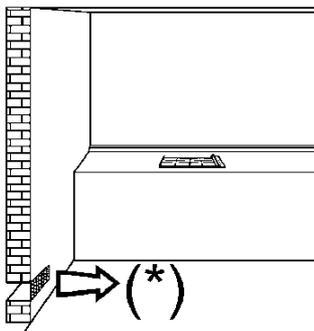
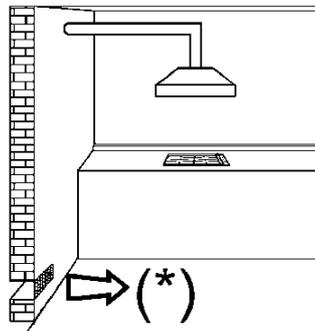
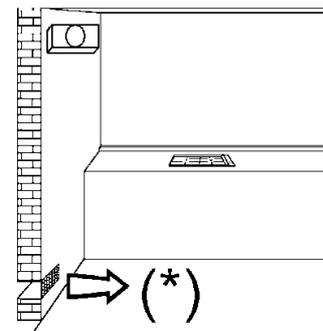

FIG. 3
FIG. 4
FIG. 5
- *use of a gas cooking appliance produces heat and moisture in the room in which it is installed. The room must therefore be well ventilated by keeping the natural air vents clear (see fig. 3) and by activating the mechanical aeration device (suction hood or electric fan fig. 4 and fig. 5).*
Natural air flow must enter directly through permanent openings in the walls of the room in question. These must open towards the outside and possess a minimum section of 100 cm² see fig. 3). It must be impossible to obstruct these openings.
Gas cooking appliances must always dispose of their combustion fumes through hoods. These must be connected to flues, chimneys or straight outside (see fig. 4). If it is not possible to install a hood, an electric fan can be installed on a window or on a wall facing outside (see fig. 5). This must be activated at the same time as the appliance, so long as the specifications in the provisions in force are strictly complied with.